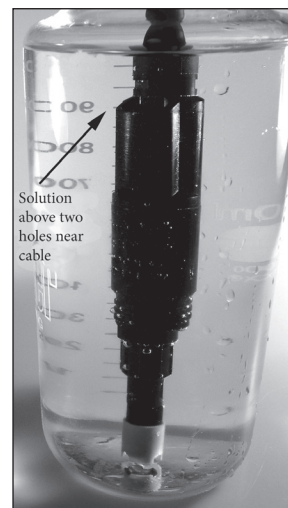

Figure 8, solution above two holes near cable.
(figure 8). Ensure the entire conductivity sensor is submerged in the solution or the instrument will read approximately half the expected value. Gently move the probe up and down to remove any air bubbles from the conductivity sensor.
1. Place the sensor into the solution. The solution must cover the holes of the conductivity sensor that are closest to the cable (figure 8). Ensure the entire conductivity sensor is submerged in the solution or the instrument will read approximately half the expected value. Gently move the probe up and down to remove any air bubbles from the conductivity sensor.
Instrument will not calibrate the Conductivity sensor; instrument displays "Calibration Over", "Calibration Under", or "Unstable Reading" during calibration.	<ol style="list-style-type: none"> 1. Ensure the conductivity sensor is clean. Follow the cleaning procedures in the Care, Maintenance and Storage section of this manual. 2. Verify the calibration solution is above the two holes near the cable, see figure 8. 3. Verify the calibration solution is not expired or contaminated. Try a new bottle of solution. 4. Ensure you are entering in the correct value for the solution according to the measurement units. 1 mS = 1,000 uS. 5. Allow sufficient stabilization time for conductivity and temperature AND wait at least 3 seconds before confirming a calibration. 6. Contact YSI Tech Support.
Conductivity readings are inaccurate.	<ol style="list-style-type: none"> 1. Ensure the conductivity sensor is clean. Follow the cleaning procedures in the Care, Maintenance and Storage section of this manual. 2. Verify the sample is above the two holes near the cable, see figure 8. 3. Verify calibration. 4. Verify temperature readings are accurate. 5. Verify the correct units are setup in the System Setup menu, i.e. uS vs mS and Conductivity vs. Specific Conductance. 6. Contact YSI Tech Support.
Conductivity values display Over or Undr on Run screen.	<ol style="list-style-type: none"> 1. Ensure the conductivity sensor is clean. Follow the cleaning procedures in the Care, Maintenance and Storage section of this manual. 2. Verify the sample is above the two holes near the cable, see figure 8 3. Verify calibration. 4. Verify temperature readings are accurate. 5. Sample conductivity is outside the measurement range of the instrument, i.e. 0-200 mS. 6. Contact YSI Tech Support.